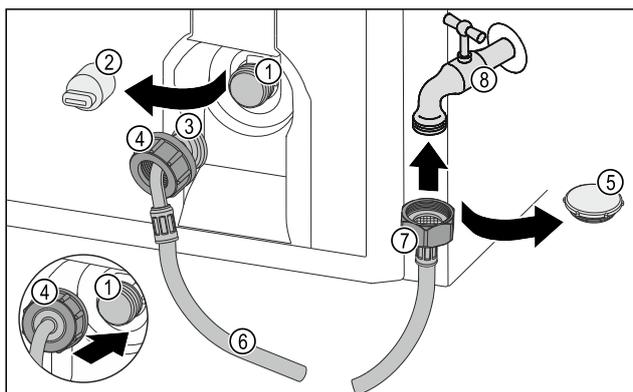

Fig. 74
- ▶ Remove the closure cap Fig. 74 (5).
- ▶ Place the straight end of the hose Fig. 74 (7) on the tap Fig. 74 (8).
- ▶ Tighten the nut at the straight end of the hose Fig. 74 (7) in a clockwise direction.